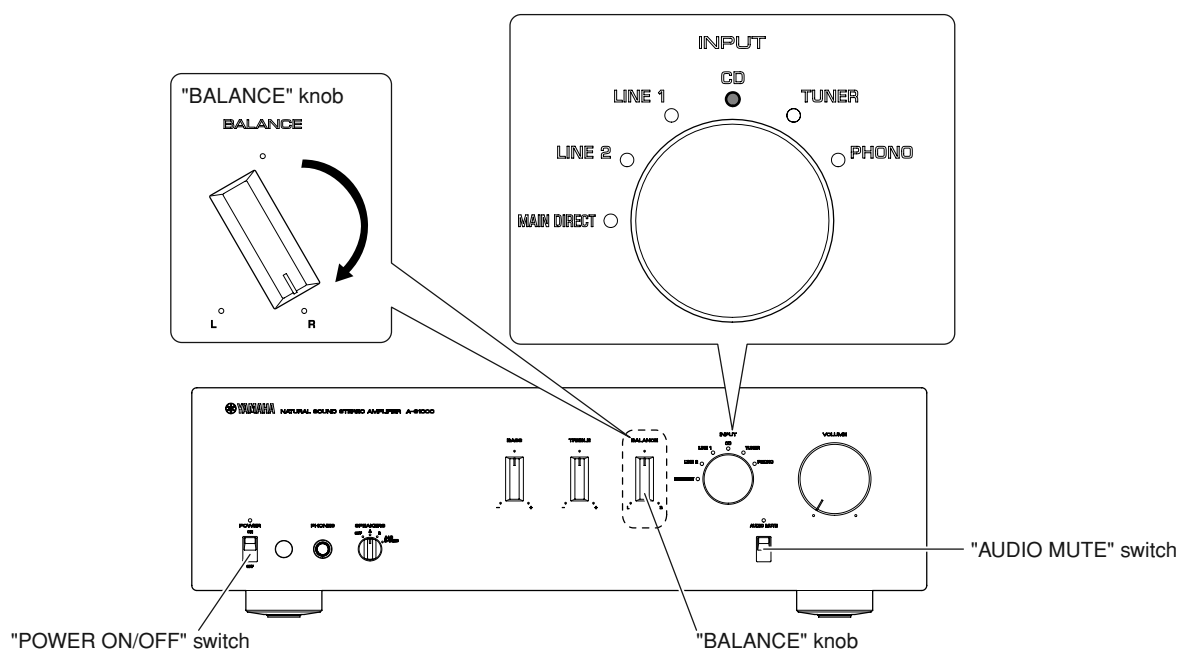

Fig. 7
1. Turn the "BALANCE" knob clockwise fully and then while pressing down the "AUDIO MUTE" switch, set the "POWER ON/OFF" switch to the ON position. (Fig. 7)
2. The INPUT selector LED "CD" will light up and the normal operation will be restored. (Fig. 7)
1. "BALANCE"ノブを右いっぱいにし、"AUDIO MUTE"スイッチを押し下げながら"POWER ON/OFF"スイッチをONにします。(Fig. 7)
2. INPUTセレクトーLED"CD"が点灯し、通常動作に戻ります。(Fig. 7)